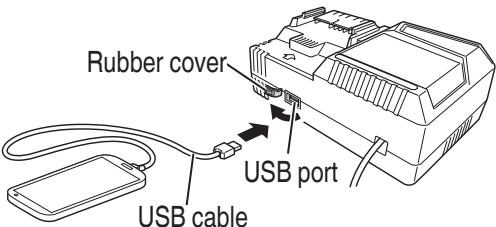

Fig. 9
(2) Connect the USB cable. (Fig. 9)